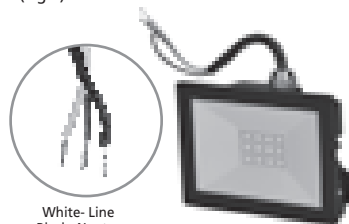

Fig. 1
- 2.- Connect the wires according the diagram (Fig.1).